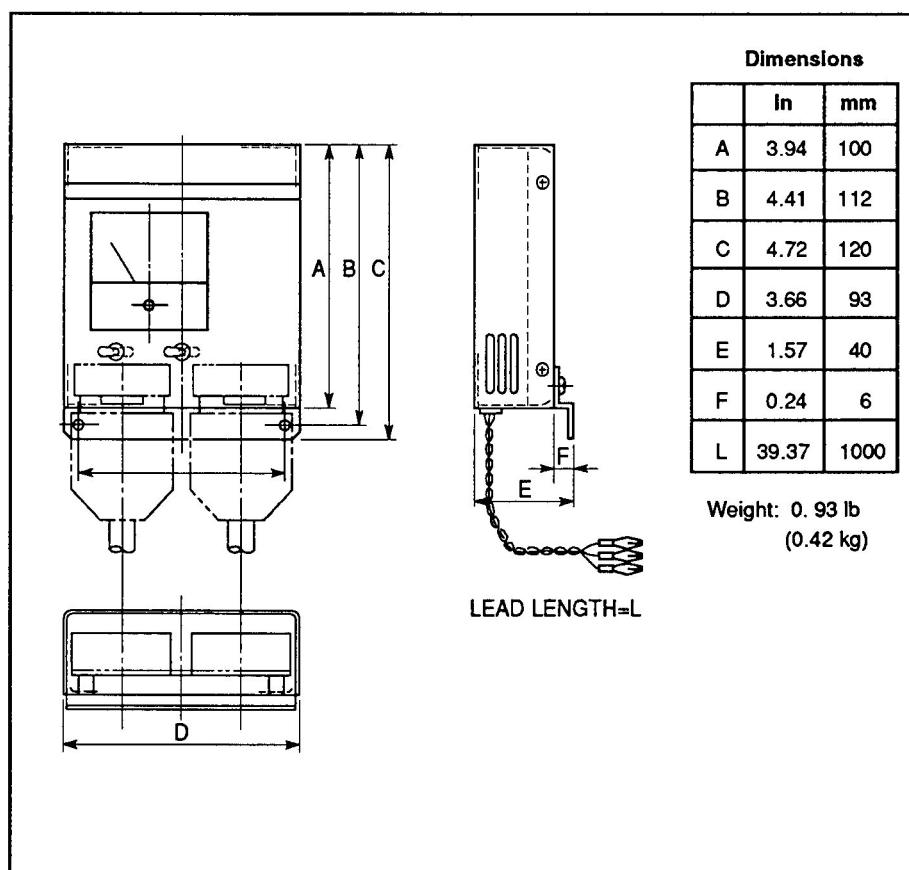

Figure 2. Encoder Tester Dimensions.
1. Select a location to mount the Encoder Tester that will allow the two supplied cables to connect to the controller. See Figure 2 for mounting dimensions.